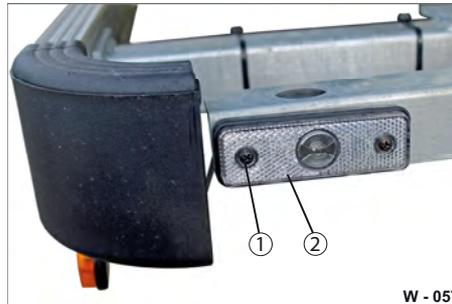

Fig. 68 Clearance light, front wall
- ▶ Release the fixing screws (Fig. 68/1).
- ▶ Remove the LED light (Fig. 68/2) - remove connection.